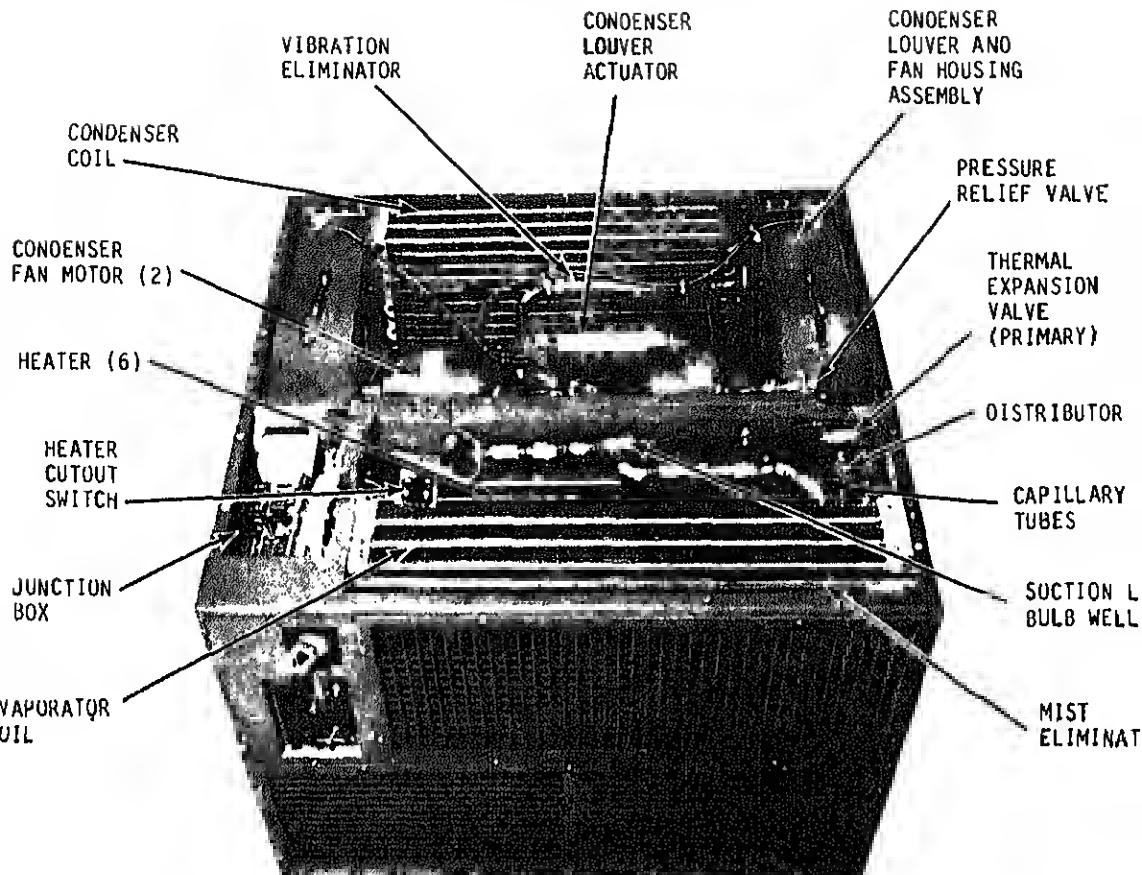

Figure 1-3. Air conditioner top view, top covers removed
a. Evaporator Section. The evaporator section (fig. 1-3), located in front of the air conditioner, contains intake and discharge air louvers, air filter, mist eliminator, evaporator coil, evaporator motor and fans, heating elements, heater thermal protector, safety expansion valve, condensate drain
ion (fig. 1-3) located in the rear